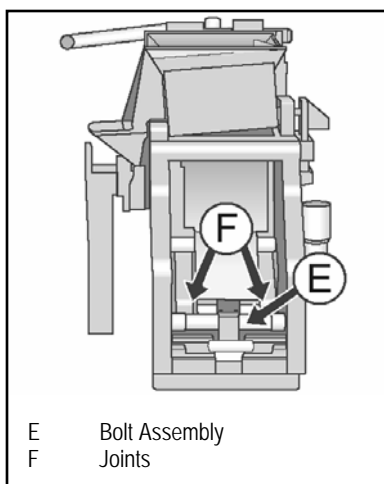

Figure 5-23: Brew Unit Lubrication Points
3. Refer to Figure 5-23, lubricate the following: